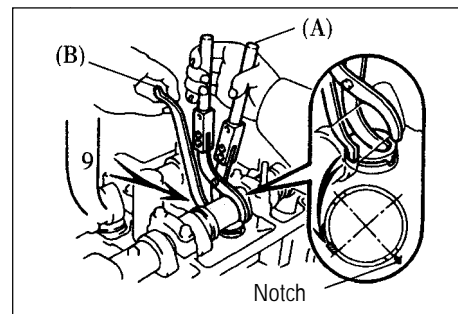

Figure 2-10
(1) Remove the adjusting washer.
- c. Press the valve tappet down with a special tool, and place the tool between the camshaft and the valve tappet (see Figure 2-10).
- If the special tool (B) is put into a deep position too much, it will be clipped by the washer. In order to avoid the special tool (B) being too hard to take out, put it into slowly by decreasing the inclination angle from the suction side.
- It is difficult for the special tool (B) to insert due to the shape of the cam when inserting it from the suction side to the back side of No.3 cylinder (see Figure 2-10). When adjusting the washer, therefore, it is advisable to insert from the exhaust side.
- d. Press the valve tappet down alternately with the special tool (A) and (B) to check the throttle gap.
(2) Re-mount the adjusting washer.
- b. Press the valve tappet down with the special tool (A), and remove the special tool (B).